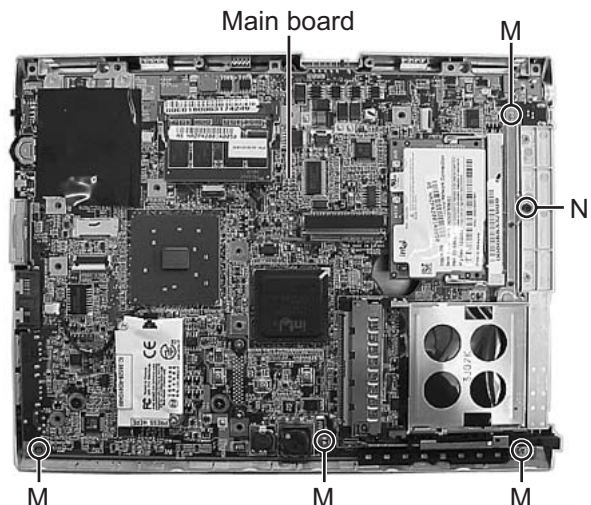

Fig.14
3.1.8 Removing the main board(See figure 14)